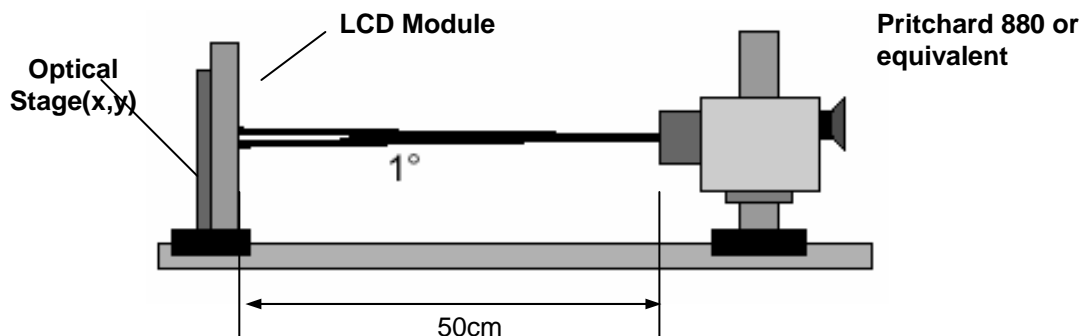

FIG. 1 Optical Characteristic Measurement Equipment and Method
It is presented additional information concerning the measurement equipment and method in FIG. 1.
2. Surface luminance is the luminance value at center 1-point across the LCD surface 50cm from the surface with all pixels displaying white. For more information see the FIG. 1.